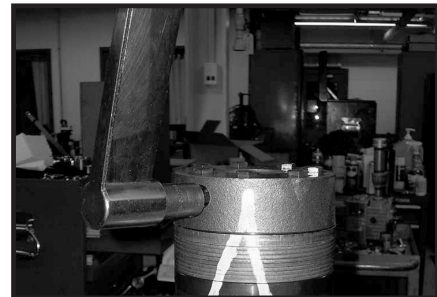

Figure 59
21. Torque the two shuttle valve plug assemblies (21) in end cover assembly to 9-12 ft. lbs. (12-16 N m) if cover is so equipped. SEE FIGURE 59.